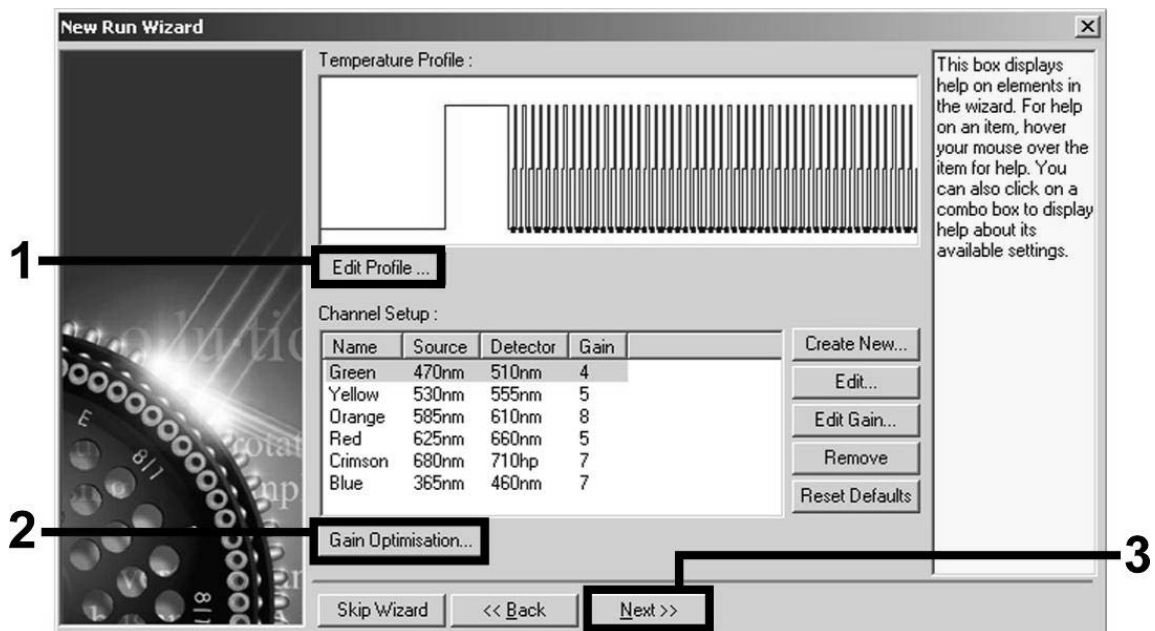
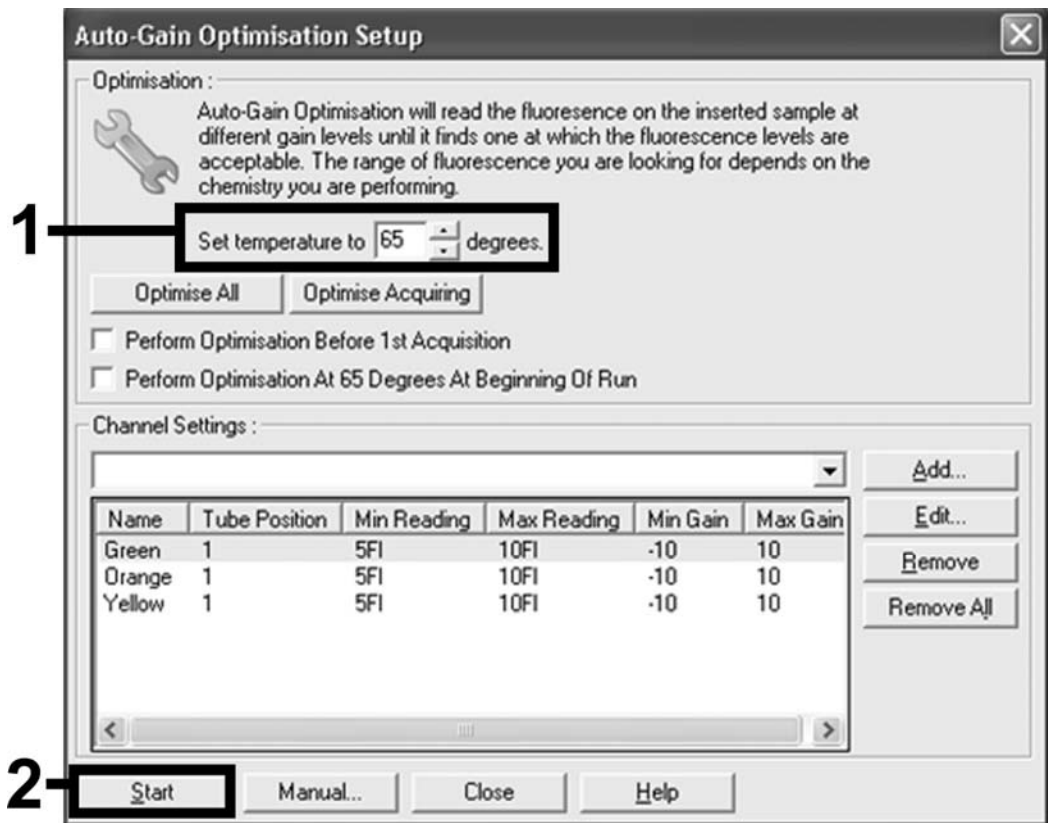

Figure 3. Editing the profile.
Figure 6. Adjusting the fluorescence channel sensitivity.
Adjusting the fluorescence channel sensitivity	Figure 6
- Click the "Edit Profile" button in the next "New Run Wizard" dialog box (Figure 3), and program the temperature profile as shown in Figures 4–5.
9. The detection range of the fluorescence channels has to be determined according to the fluorescence intensities in the PCR tubes. Click "Gain Optimisation" in the "New Run Wizard" dialog box (see Figure 3, Step 2) to open the "Auto-Gain Optimisation Setup" dialog box (Figure 6). Set the calibration temperature to 65 to match the annealing temperature of the amplification program (Figure 5, Step 4b). Make sure that all three channels (Green, Orange, and Yellow) are selected for "Auto-Gain Optimisation". (Find channels in the drop down menu under "Channel Settings" and click "Add".) Click "Start" to begin the gain optimization. Click "Close" of the "Auto-Gain Optimisation Setup" dialog box when the gain calibration is completed.